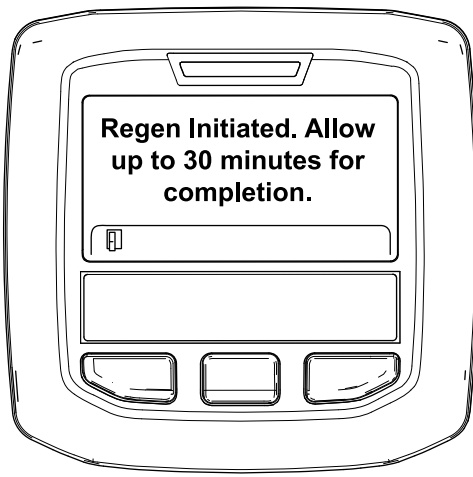

Figure 44
- If the regeneration is allowed, the "Regen Initiated. Allow up to 30 minutes for completion" message displays in the InfoCenter, wait for the machine to complete the parked regeneration process (Figure 44).